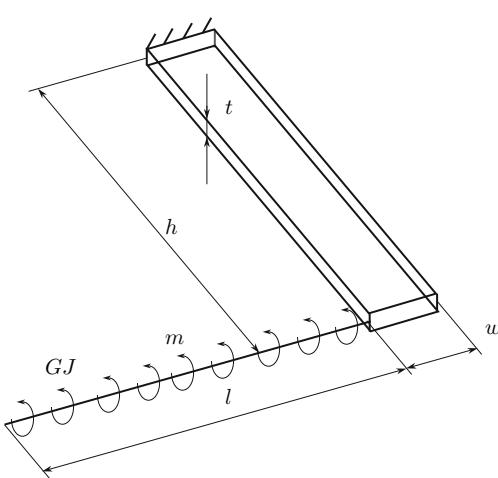

Figure 2: Cantilever bending
2. The  $h \times w \times t$  solid of Figure 2 is joined to a beam with torsional stiffness  $GJ$ . The beam is loaded by a moment per unit of length  $m$ . Compute the vertical displacement and the rotation of the beam free extremity. Refer to Table 2 for the problem data, and assume reasonable values for any missing constant. Choose and justify a suitable structural model for the solid.